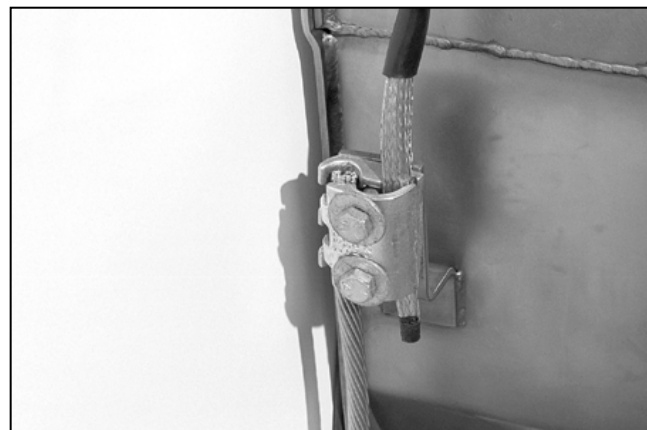

Figure 81. The shielded cable connected to the tank ground.
- STEP 3.** Connect the heavy-shielded cable tails from each of the main cables to the tank ground pad using the clamshell connector provided. The shortest possible connection should be made. There is one heavy-shielded cable tail per motor operated way. See Figure 81.